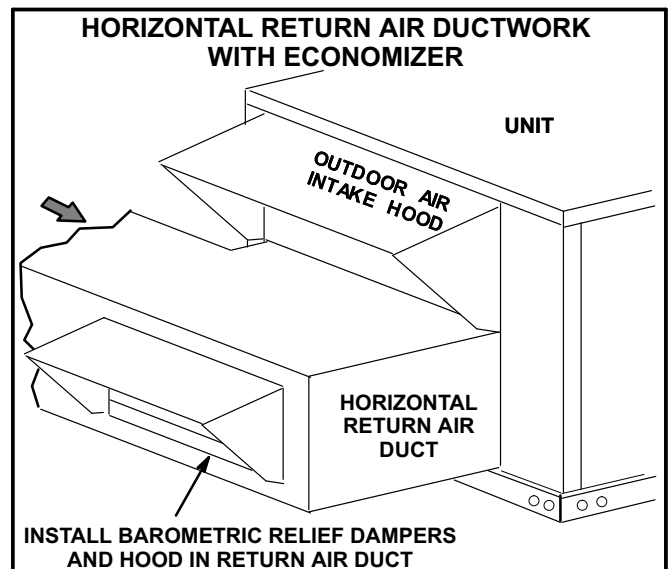

FIGURE 4
- 5- Install return air duct beneath outdoor air intake. See figure 4. Install barometric relief damper in lower hood and install in ductwork as shown in figure 4.